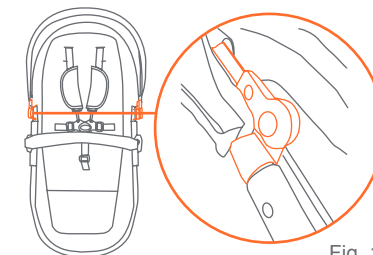

Fig. 11a
- 11) • **To attach the removable canopy:** Snap the canopy clips on the inside of the toddler seat tubes (Fig. 11a).